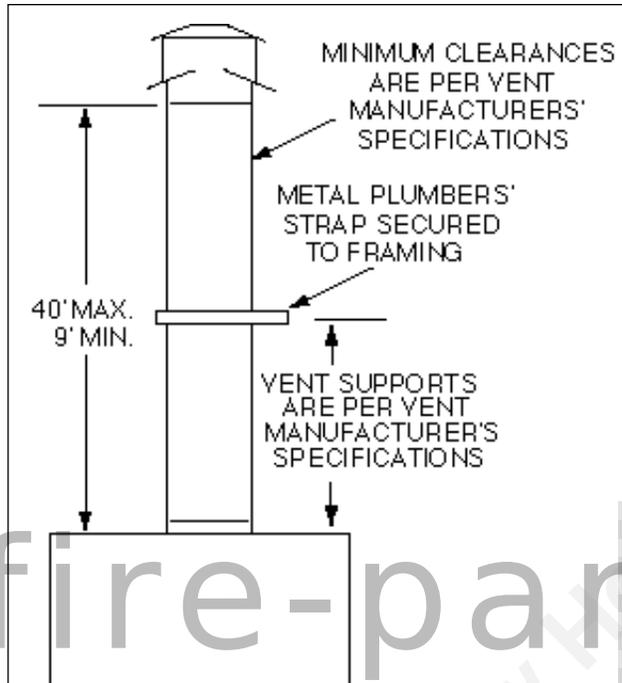

Figure 4
Figure 2 shows all clearances that must be maintained around the appliance. See page 9 for termination cap clearances. See Figures 4 and 15 for vent clearances.
a. Clearances. See *Figure 4* for clearance information.